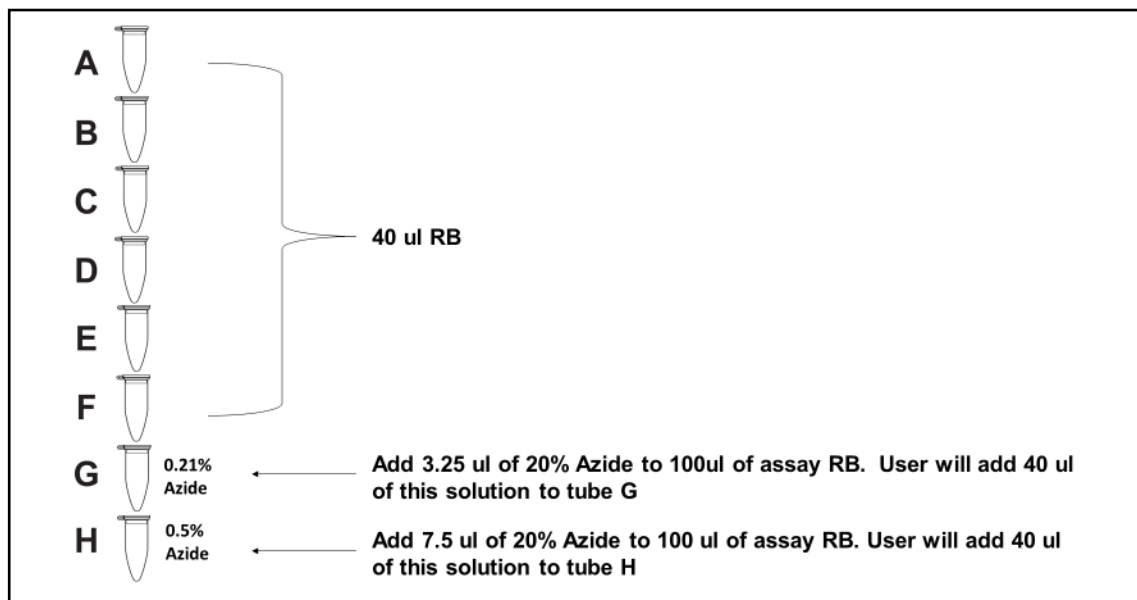

Figure 2. Set up for Incubation Tubes for Standard Curve and Azide Experiment
The RT assay requires two sets of tubes which are incubation tubes (1) and dilution tubes (2). Briefly, incubation tubes will receive 40 ul of RB or RB plus azide and dilution tubes will receive 80 ul of HIV RT in lysis buffer. The addition of RB and RB plus test compound to the incubation tubes should be completed before diluting the RT enzyme. A generalized procedure summary for an 8-well strip is outlined below and in Figure 2.
1) Prepare the 8 incubation tubes, as shown in Fig. 2. Warm reagents and make 1x reaction buffer (RB) by mixing equal volumes of reaction buffer 1 and 2. Incubation tubes require 40 ul of RB, so for the 8-well test strip make 350 ul of RB by mixing together 175 ul of reaction buffer 1 and reaction buffer 2. The assay blank (Fig. 2, tube A) and RT incubation tubes (Fig. 2, tubes B-F) each receive 40 ul of RB. Fig. 2 also illustrated how to produce the inhibitory 0.21% and 0.5% azide in RB.